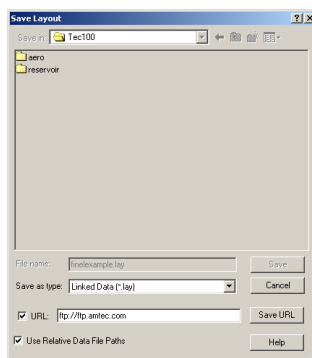

Figure 5-12. The Save Layout dialog in Windows, showing the URL check box.
4. Specify a file name for the layout file. In Windows, you may specify a URL by selecting the URL check box. When selected, you may enter a full URL as the file name, as shown in Figure 5-12.